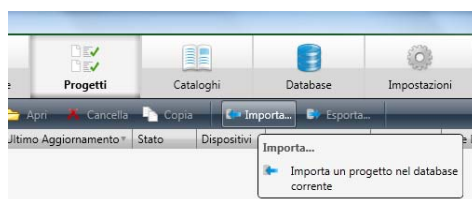

Fig. 8.b
- importare il file Carel_plugin_30.pr5 tramite il menu (Projects) → Importa (Import) , Fig.8.b
- Premere "Importa" (Import) , Fig.8.b.